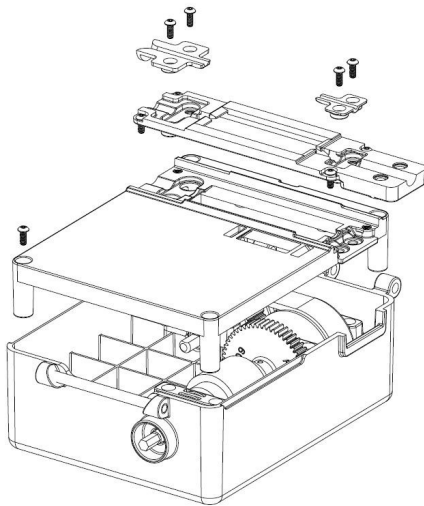

Figure 1
Step 1: Using a 5/64 hex key wrench, unscrew the (12) screws to remove the Assist Module fiber guides, belt drive cover, and inside cover (**Figure 1**).